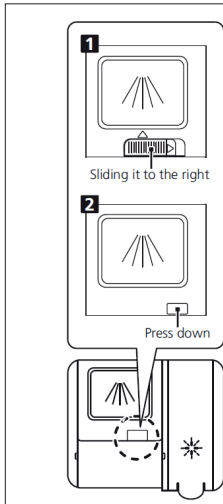

Fig. 6
- Method 2: Open the lid by pushing the release latch. (Fig. 6).